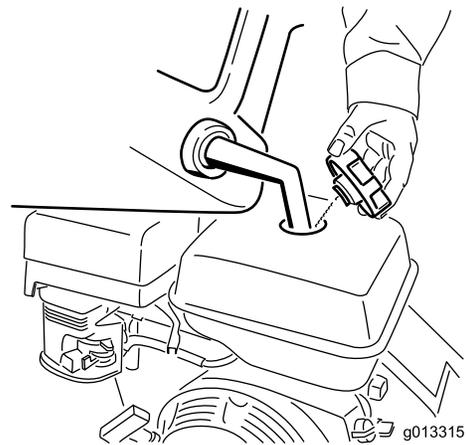

Figure 12
3. Clean around the fuel tank cap and remove it (Figure 12).